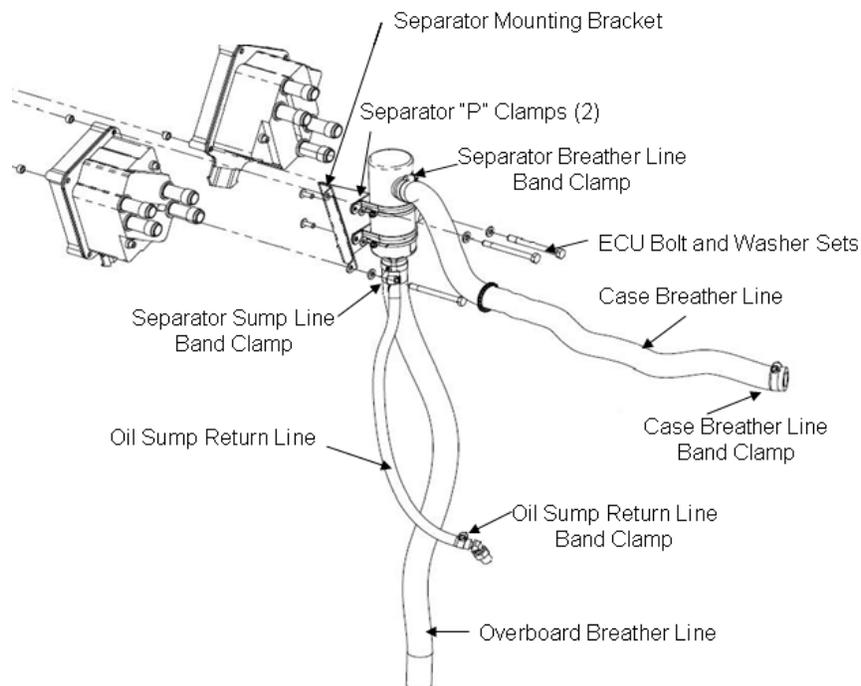

Figure 71-2 Air/Oil Separator Engine Disconnections
11. If so equipped, disconnect the crankcase breather line from the air/oil separator at the location shown in Figure 71-2. The case breather line will be removed with the engine.
12. If so equipped, disconnect the air/oil separator oil sump return line from the engine fitting as shown in Figure 71-2. Cap the line and engine fitting after disconnection.
21. If so equipped, disconnect the air/oil separator oil sump return line from the engine fitting as shown in Figure 71-2. Cap the line and engine fitting after disconnection.